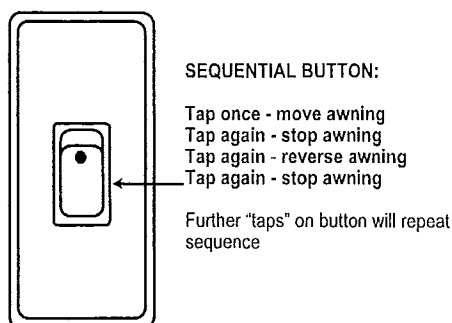

Fig. 1
1. Open the awning by using either the wall switch (Fig. 1) or hand held remote (Fig. 2).